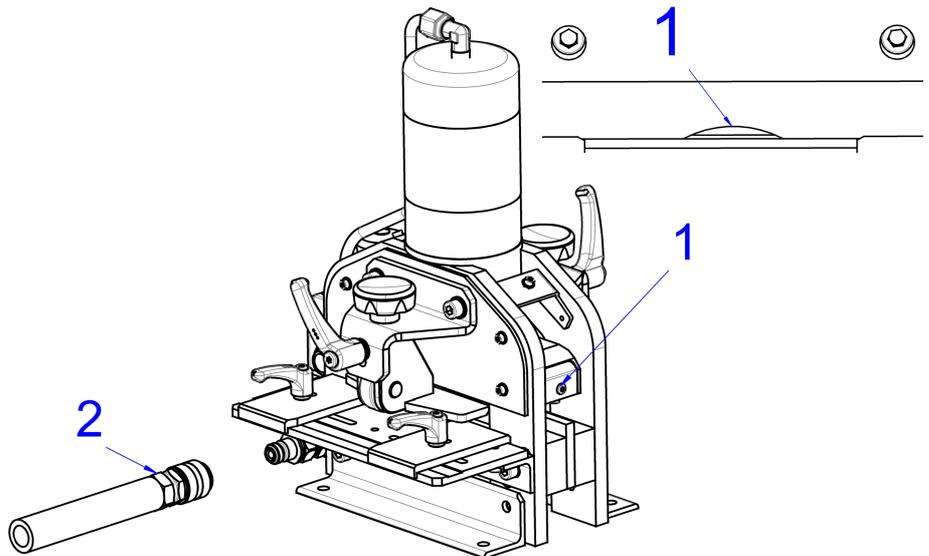

Fig. 10: Blade in the lower position
- Activate the hydraulic pump and allow the blade to travel down until only a small curvature (fig. 10, 1) can be seen between the blade and the counter cutter.
- Switch off the hydraulic pump and immediately disconnect the hydraulic coupling (fig. 10, 2) at the cutting unit so the cutter bar remains at the bottom position.